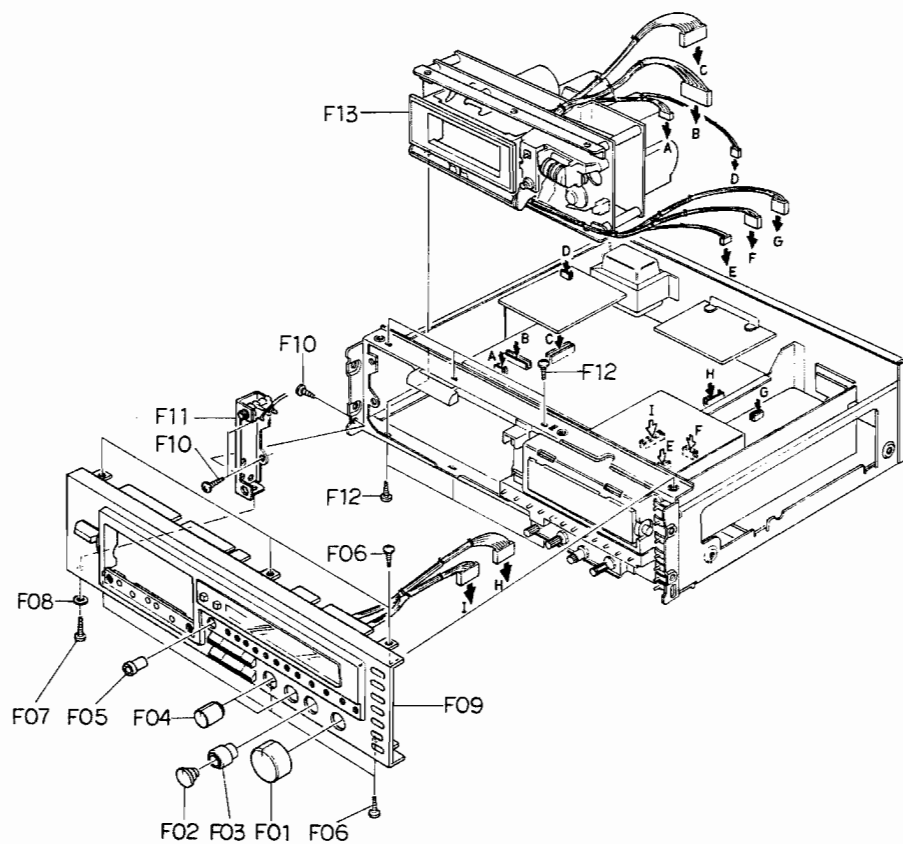

Fig. 2.2
Refer to Fig. 2.2.
- (1) Refer to Fig. 2.2. Remove Front Panel Ass'y referring to item 2.5.
- (2) Remove F01, then disassemble F02 (FL Indicator Ass'y including 3 connectors).
- (2) Remove one connector and the wires connected by wrapping.
- (3) Remove F03, then disassemble F04 (Auto Azimuth P.C.B. Ass'y).
- (2) Remove 7 connectors and the wires connected by wrapping from F06 (Logic P.C.B. Ass'y).
- (3) Remove F05, then disassemble F06 (Logic P.C.B. Ass'y).
- (2) Pull out F07 (Function Switch Knob Ass'y).
- (3) Remove the Flat Cables, connector and wires connected by wrapping from F10 (Switch P.C.B. Ass'y).
- (4) Remove F08 and F09, then disassemble F10 (Switch P.C.B. Ass'y).
- (2) Remove F15, then disassemble F16 (Calibration Case Ass'y)
- (3) Remove F17, then disassemble F18 (Record Cal. P.C.B. A Ass'y).
- (4) Remove F19, then disassemble F20 (Record Cal. P.C.B. B Ass'y).
- (5) Remove F21, then disassemble F22 (Lamp P.C.B. A Ass'y).
- (2) Remove F23, then disassemble F24 (Power Switch Knob).
- (3) Remove F25, then disassemble F26 (Power Switch Holder Ass'y).
- (4) Remove F27, then disassemble F28 (Power Switch).
- (2) Remove F29, then disassemble F30 (Insulator) and F31 (Lamp P.C.B. B Ass'y).
- (3) Remove F32 (Lamp P.C.B. C Ass'y) by releasing the self-interlocking pin of the Reflector.
- (2) Remove F01, F02, F03 and F04, then disassemble F05 (Control Button Ass'y).
- (3) Remove F06, then disassemble F07 (Control Switch P.C.B. Ass'y).
- (1) Refer to Fig. 2.2. Remove Mechanism Ass'y referring to item 2.7.
- (2) Press the Eject Button to open the Cassette Case Ass'y.
- (3) Remove F01 and F02, then disassemble F03 (Cassette Case Holder L Ass'y) by releasing the self-interlocking pin of the Damper Lock Arm and F04 (Cassette Case Ass'y).
- (4) Remove F05, then disassemble F06 (Cover Plate Ass'y).
- (2) Remove F07, then disassemble F08 (Tape Counter Ass'y).
- (3) Remove F09, then disassemble F10 (Pitch Control Holder Ass'y).
- (4) Remove F11, then disassemble F12 (Memory Switch).
- (5) Remove F13, then disassemble F14 (Pitch Control Volume).
- (2) Remove F01 and F02, then disassemble F03 (Flywheel Holder Ass'y) and F08 (Capstan Belt).